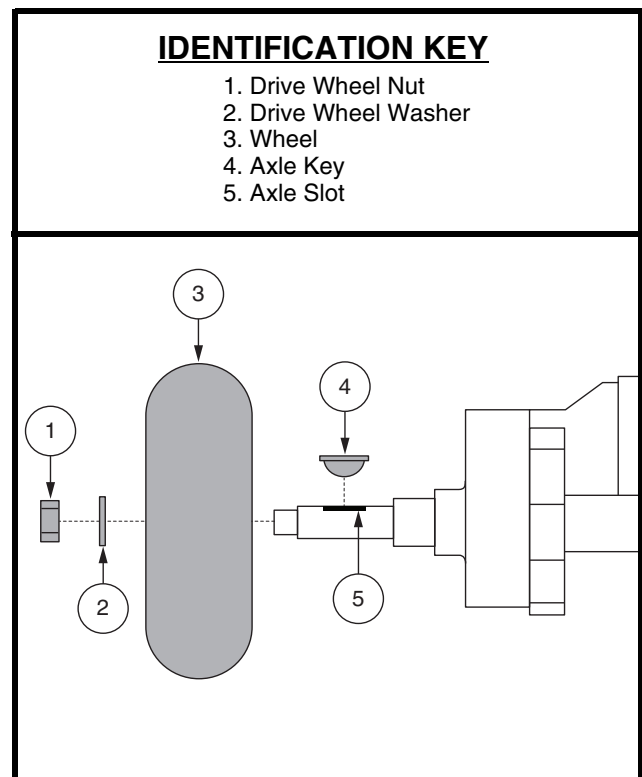

Figure 28. Wheel Replacement
3. Remove the drive wheel nut and washer from the axle. **See figure 28.**